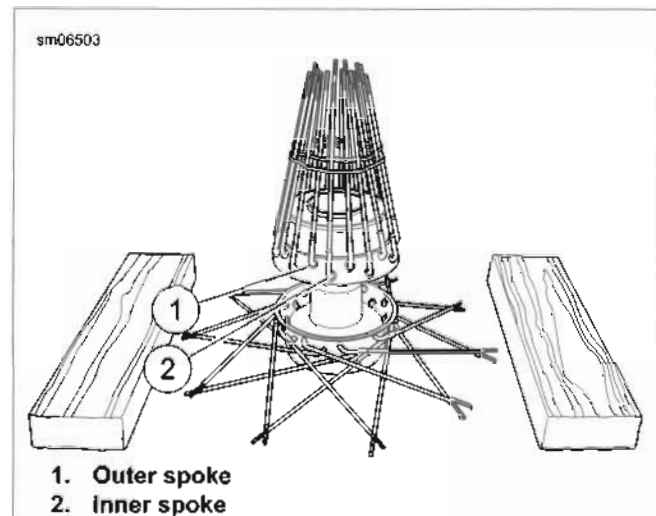

Figure 2-13. Spokes Gathered
- See Figure 2-13. Flip hub over. Gather all outer spokes and hold upright with a rubber band. Repeat with the inner spokes using a second rubber band.